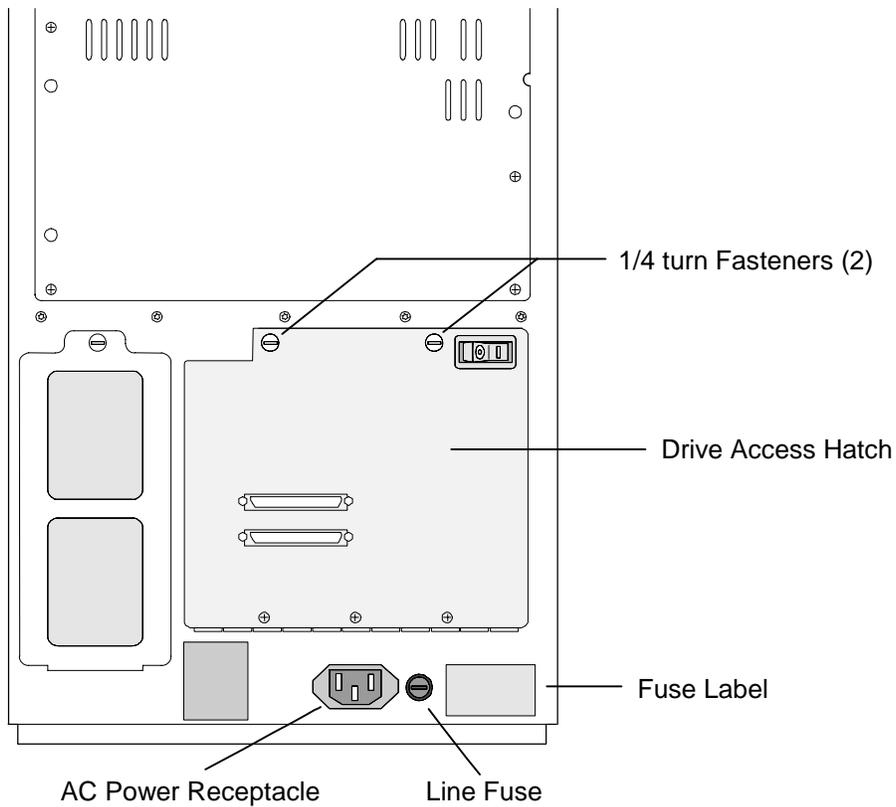

Figure 3-6 TLS Rear View (42xx shown)
1. On TLS-42xx series libraries, unlock the Drive Access Hatch at the rear of the TLS by turning the two 1/4-Turn Fasteners one-quarter turn counter-clockwise (see Figure 3-6).
1. On TLS-42xx series libraries, lift the Drive Access Hatch to its closed position and secure by turning the two 1/4-Turn Fasteners one-quarter turn clockwise (see Figure 3-6).